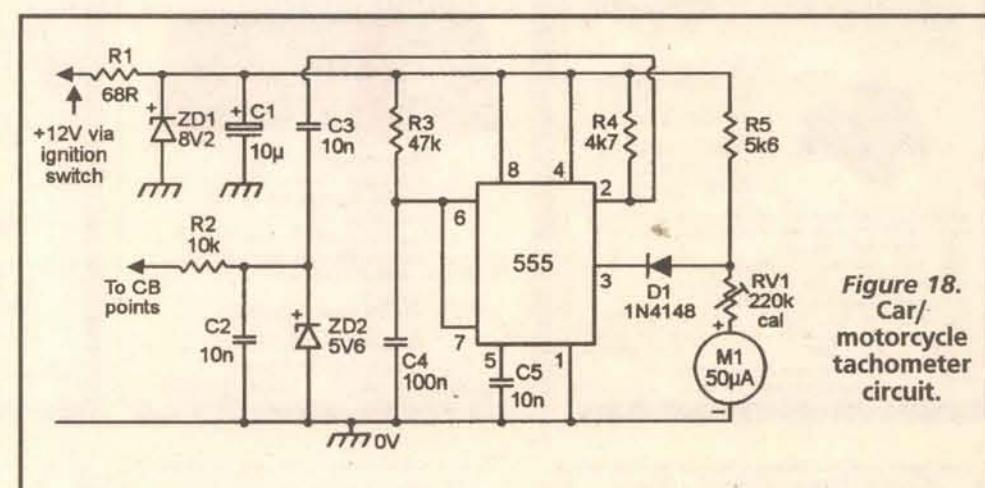

Figure 18.
Figure 18 shows the circuit modified as an analog tachometer (RPM meter) for use in cars or motorcycles. It is powered by a regulated 8V2 supply (derived via the ignition switch) and is triggered by the vehicle's contact breaker (CB) points via the R2-C2-ZD2 waveform-conditioning network. The circuit action is such that current is applied to the 50µA FSD meter via R5-RV1 and the IC supply line when the IC output is high, but is reduced to